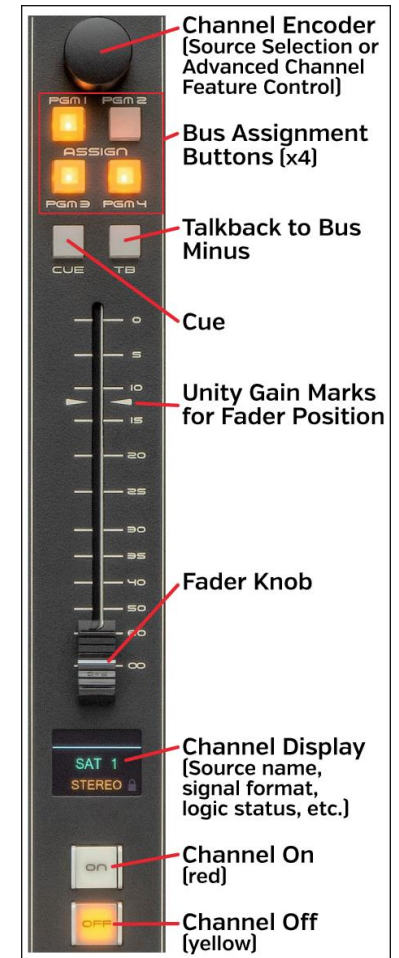
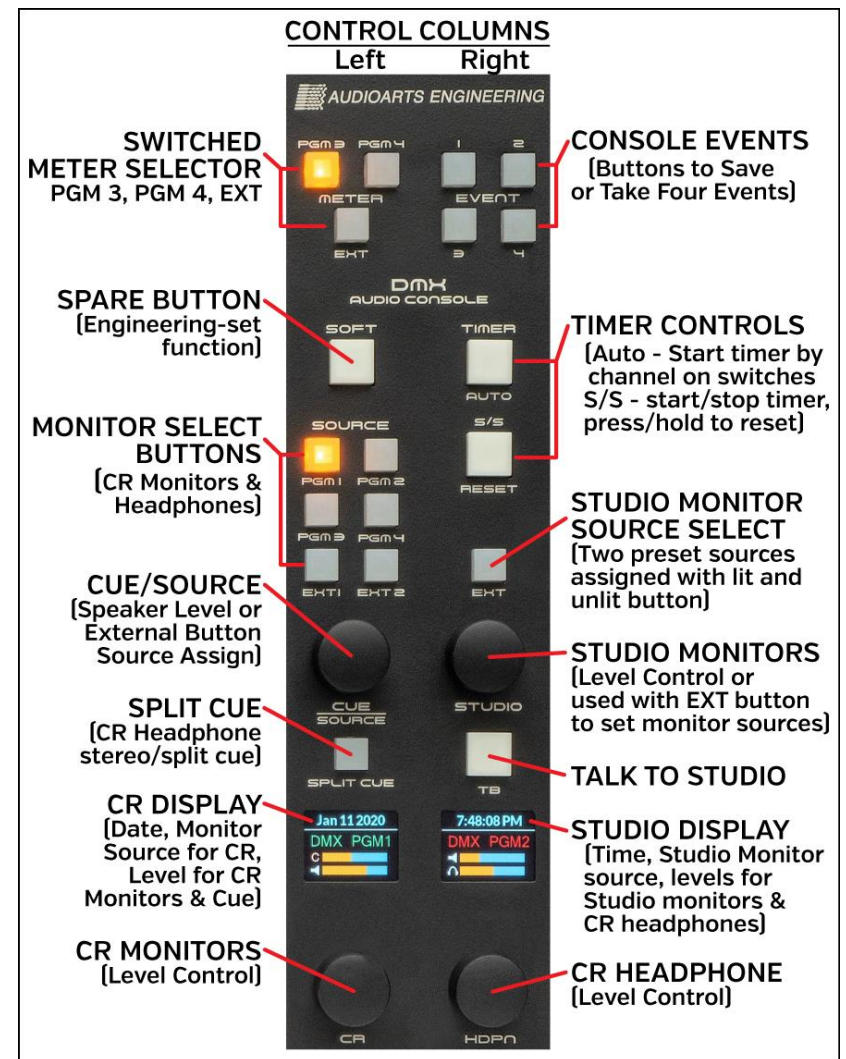

Figure 4-2 Fader Channel Controls
Figure 4-4 Fader Channel Controls
Fader channel controls are detailed in Figure 4-2. The monitor controls are detailed in Figure 4-4 on page 50. The first mention of each control in the text is in **Bold** text.
Monitor controls on the DMX Surface are identified in Figure 4-4 on the next page. The controls are arranged in two columns. The left column has the switched meter source selectors and the control room (CR) monitor controls. The right column has the studio (ST) monitor controls along with the Event and Timer controls.
An "on-the-fly" studio source can also be selected by press/holding the Studio encoder for about three seconds, until the list of visible source names appears in the Studio display. Highlight the desired source then click the Studio encoder to select that source. Its name is shown in red text in the Studio display (shown in Figure 4-4 on page 50) to indicate it's a temporary monitor source.